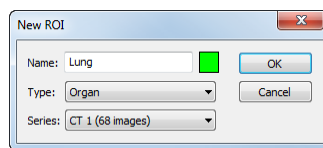

Figure 158 – New ROI dialog
- The **New ROI** dialog for defining the main properties of the new ROI will be opened (see Figure 158).